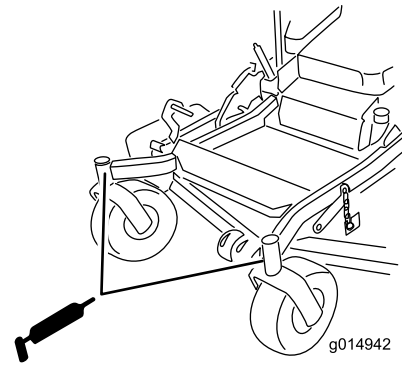

Figure 39
8. Remove the grease zerk in the hole. Install the hex plug and dust cap (Figure 39).